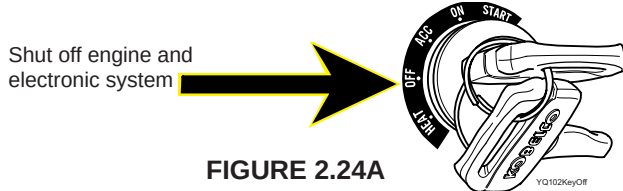

FIGURE 2.24A
1. Stop the engine, see Figure 2.24A.